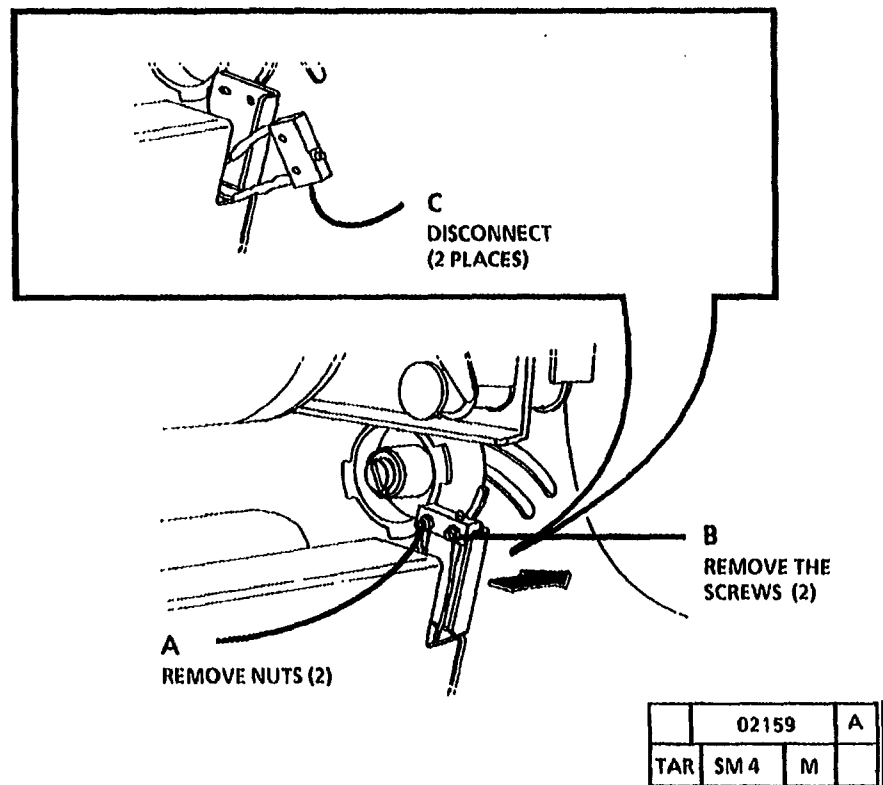

Figure 2. Remove the Stripper Finger Jam Switch
3. (Figure 2): Remove the Stripper Finger Jam Switch.